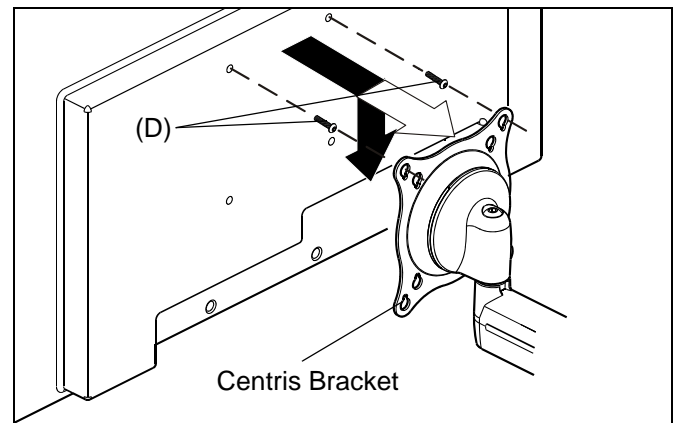

Figure 3
2. Using Phillips screwdriver, carefully install two M4 x 12 screws (D) into the *upper* mounting holes on the display. Thread screws completely into display, then back out 3 complete turns. (See Figure 3)
3. Pick up and align display so that screws (D) (installed on the back of the display in the previous step) fit into the top two mounting holes on the Centris bracket; rotate the bracket as required. Lower the display firmly into place. (See Figure 3)